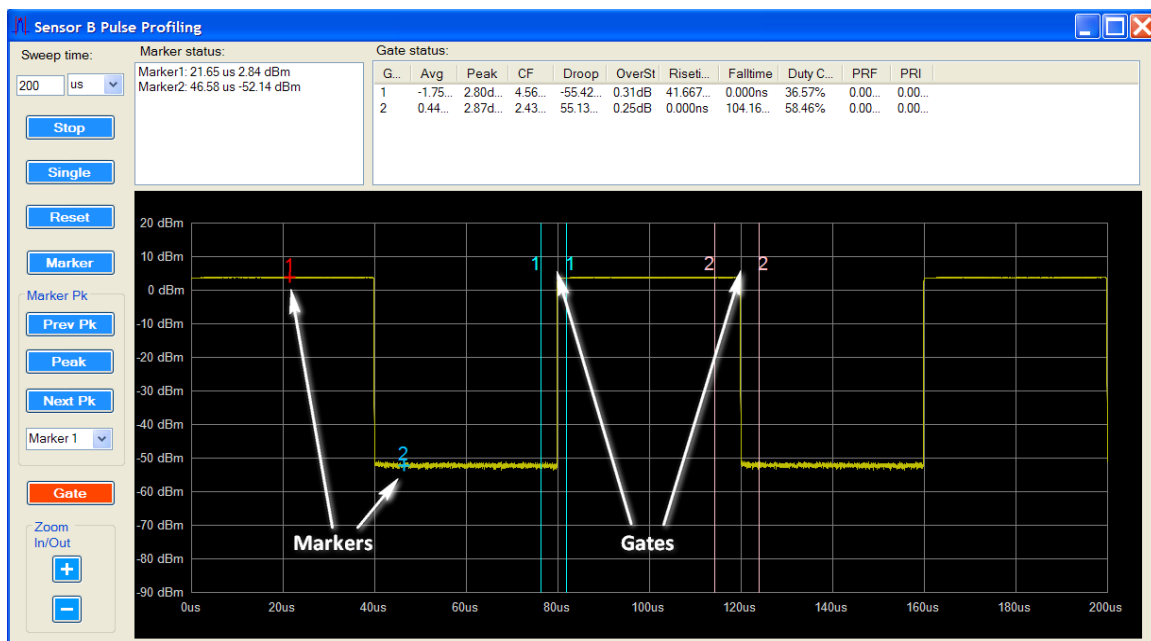

Figure 56. Markers and Gates on the Pulse Profiling Window
10. You can now place markers and gates to obtain the information you desire from the sweep display. Refer to section 3.9 starting on page 39 for details on placing and using markers and gates. Figure 56 shows a sweep with two markers and two gates, and their data shown in the Marker Status and Gate Status panes.